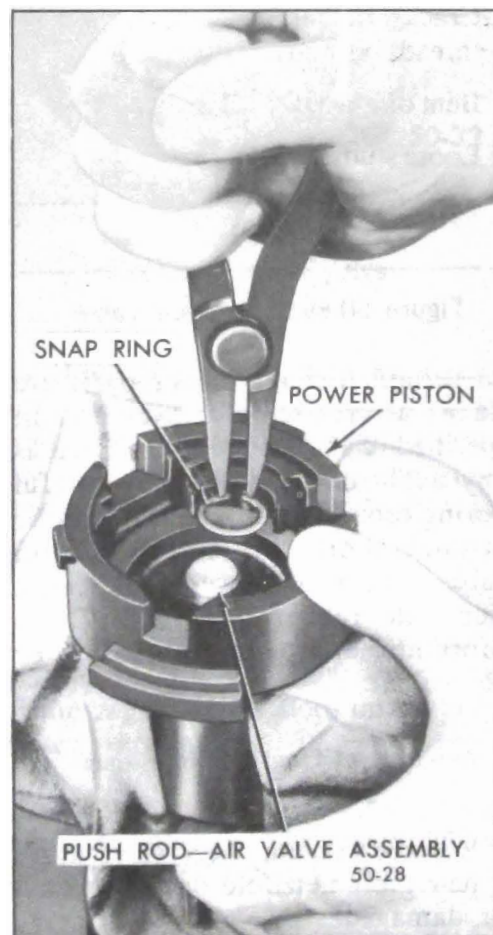

Figure 50-87 Removing Power Piston Snap Ring
10. Use 22 Truarc Pliers or J-4880 to remove snap ring on air valve. See Figure 50-87.